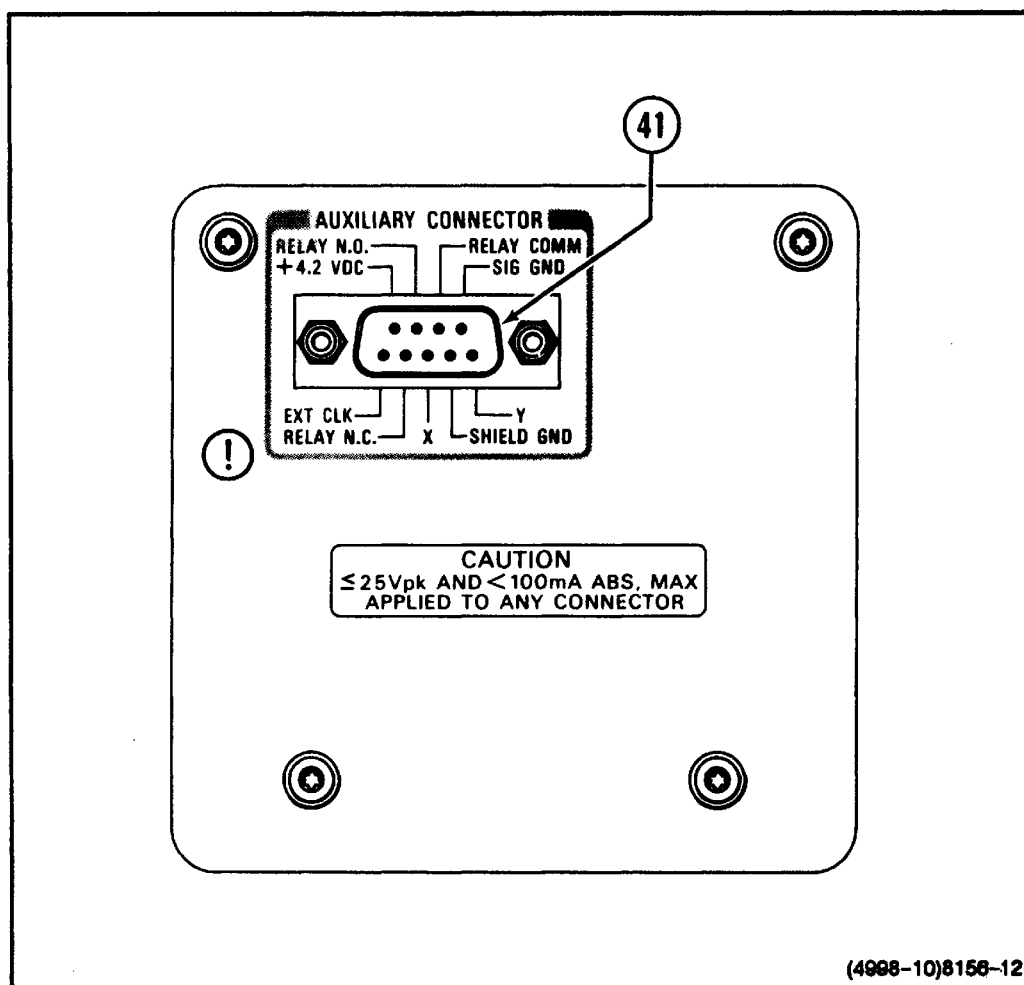

Figure 3-8. Side panel.
The standard side panel includes one AUXILIARY CONNECTOR. Refer to Figure 3-8 for the location of item 41.